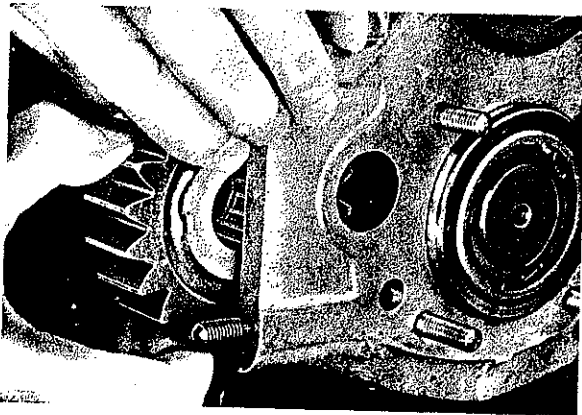
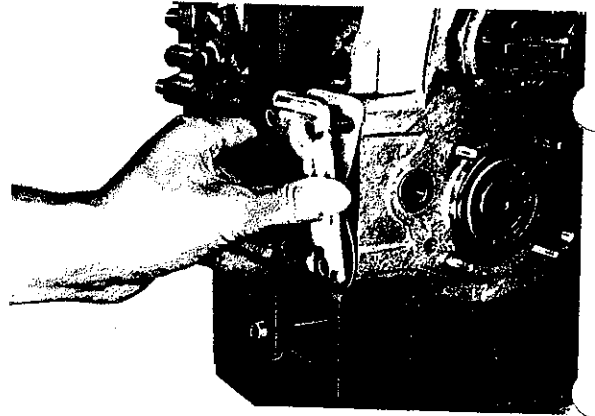

Fig. 50
Fig. 51
1. Slide needle cage (503) into bore of reversing gear (505). Glue thrust washer (501) with grease to end with projecting hub. Attach washer (504) to other end (bent tabs are outside). Insert reversing gear into housing with projecting hub facing input end (Fig. 50).
2. Put finger through housing bore and move reversing gear with thrust washers into position matching bore. Insert reversing shaft (502) in such a manner that the threaded bore faces the bearing of the countershaft and is in alignment with bore in tachometer cover (rotary lock) (refer to Fig. 51), while provisionally mounting cover. Mount gasket (126) and cover (127) (Fig. 50), place spring washers (103) and nuts (102) on studs and tighten to 2.0 — 2.5 kpm.